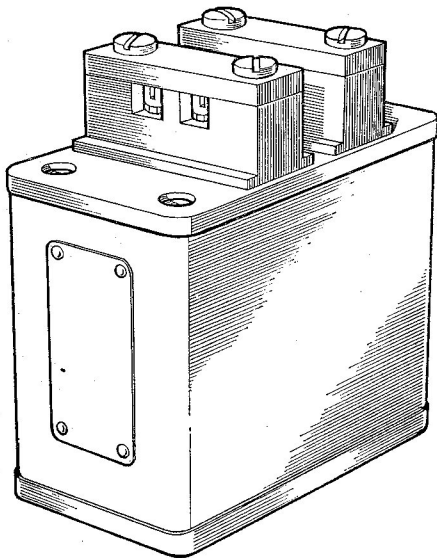

Fig. 1. Transformer-rectifier unit, Rotax, Type ZA12201
2. The unit (fig. 1 and 2) incorporates a toroidal transformer in conjunction with two silicon diodes and a metallized plastic foil 0.05  $\mu$ F capacitor. The components are mounted on opposite sides of a group board,